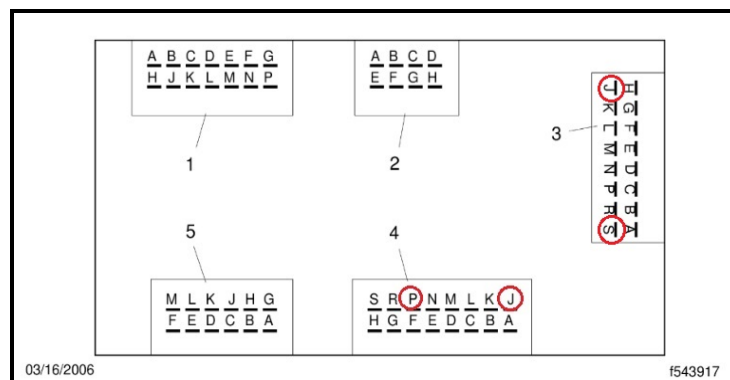

Figure 2
5. Inspect all pins for signs of heat damage. Please pay particular attention to Pin P & Pin J (Figure 2) as they are the 30 amps power feed. If any sign of heat damage exists, replace the Chassis Module and retain the failed part, along with the vehicle's serial number (last six of the VIN).
7. Inspect all pins for sign of heat damage. Please pay particular attention to Pin J & Pin S (Figure 2) as they are the 30 amps power feed. If any signs of heat damage exists, replace the Chassis Module and retain the failed part, along with the vehicle's serial number (last six of the VIN).